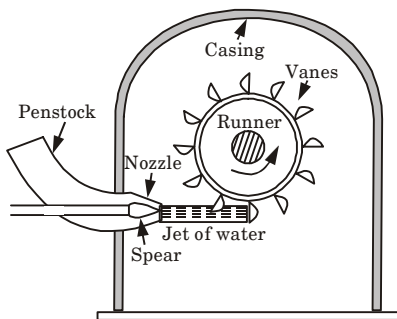

Fig. 4.11.1. Pelton turbine.
- Fig. 4.11.1 shows the casing of a Pelton wheel turbine.